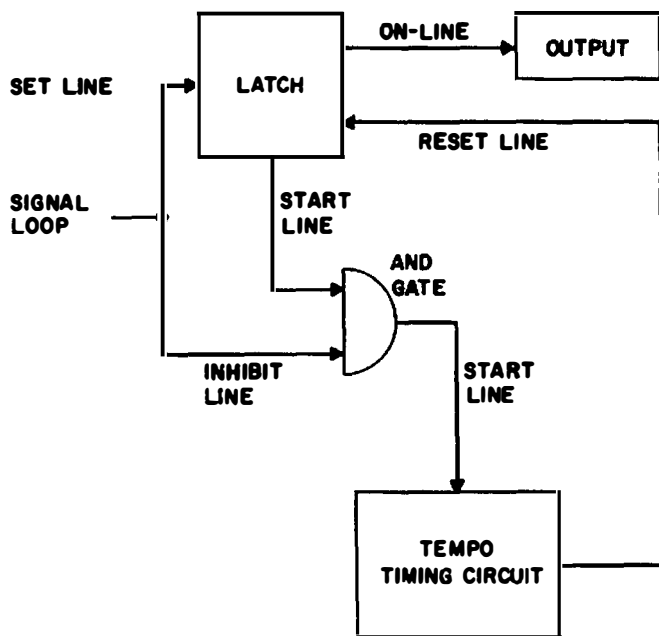

Figure 1-1. Simplified Block Diagram
4.1 Simplified Block Diagram Description. A simplified block diagram of the Station Motor control is shown in figure 1-1. The unit is a Delay-On-Drop-Out Timer which consists of a basic Tempo timing circuit, a latch circuit, an AND Gate and an output circuit.